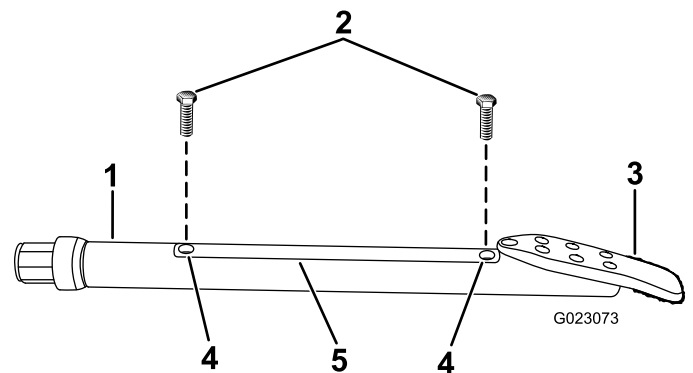

Figure 82
2. Loosen the screws securing the housing cover to the housing and remove the cover (Figure 82).
4. Install the housing cover and secure it with the screws (Figure 82).